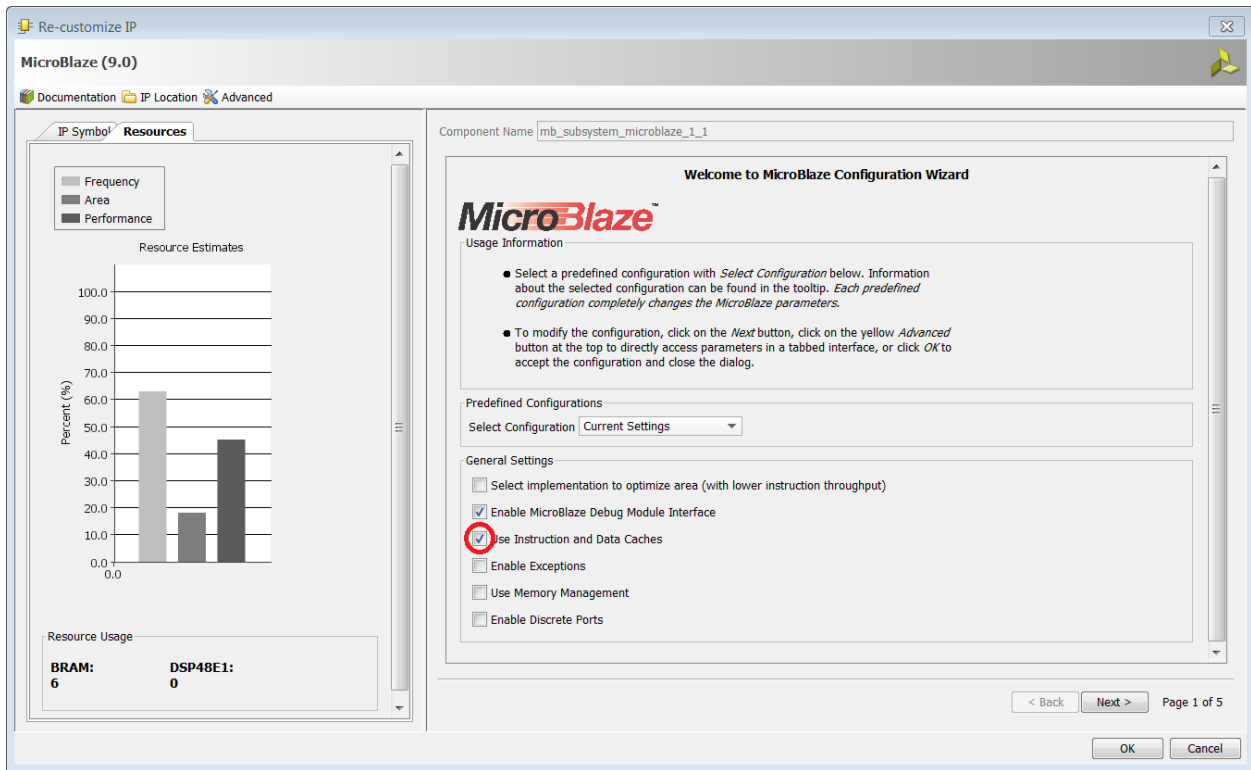

Figure 83: MicroBlaze Configuration Wizard
2. On page 1 of the Re-customize IP dialog box, check the **Use Instruction and Data Caches** options box, and click **Next** (Figure 83).